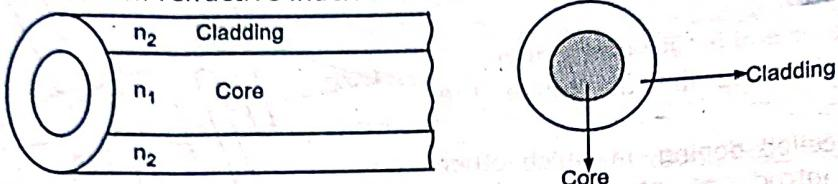

Fig. 1.6: Uniform Distribution of Refractive Index in Step Index Fiber
- The cladding has uniform refractive index distribution as shown in Fig. 1.6